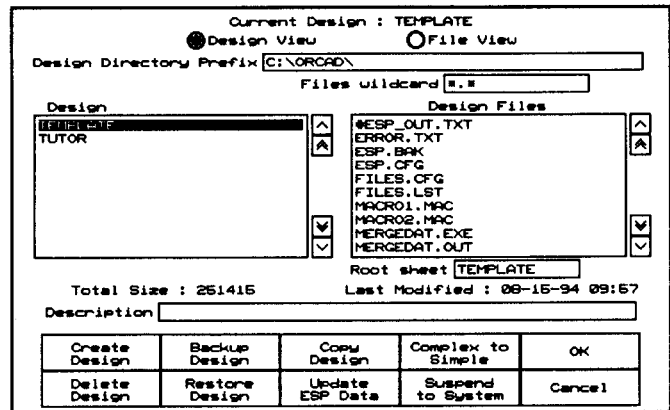

Figure 2-2. Design Management Tools screen, Design View.
2. Click the left mouse button to select the **Execute** command. The screen shown in figure 2-2 displays.